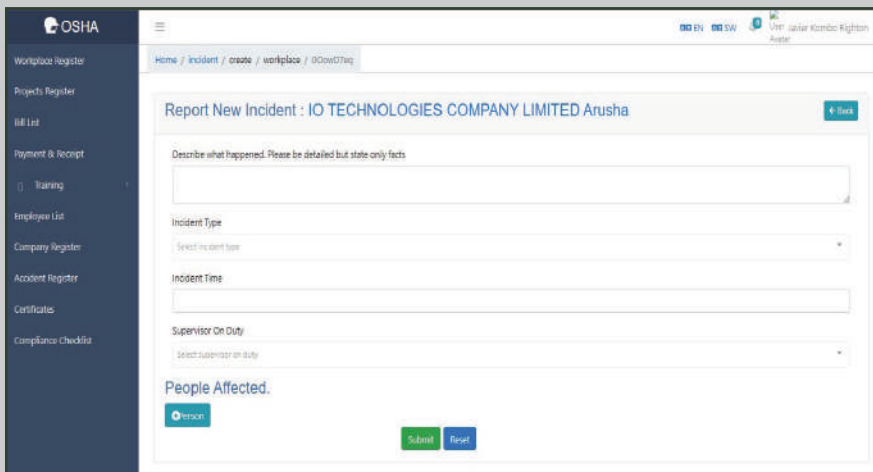

Figure 48: Filling accident reporting form
- iii) On clicking Report Accident Tab, system displays portal for reporting accident. Fill all required accidents details and click on submit button to save accident details as shown on Figure 48